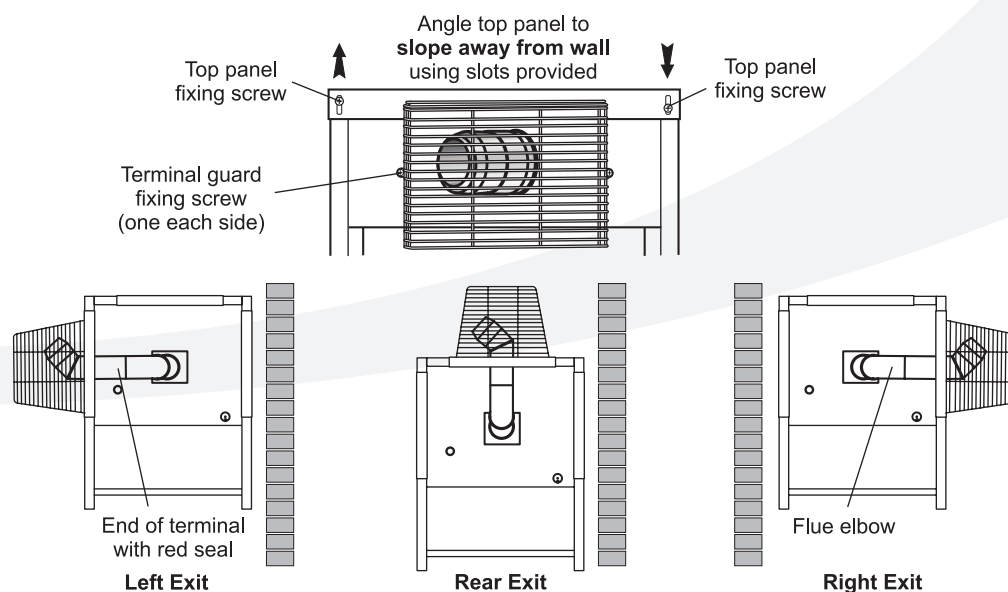

Figure 4-1: Standard low level flue
8. The top panel of the casing has been designed so that it may be fitted to create a slight slope away from the side positioned against the wall. To tilt the top panel, loosen the four top panel casing screws, one at each corner and push down on the side furthest from the wall. Tighten the screws. See Figure 4-1.